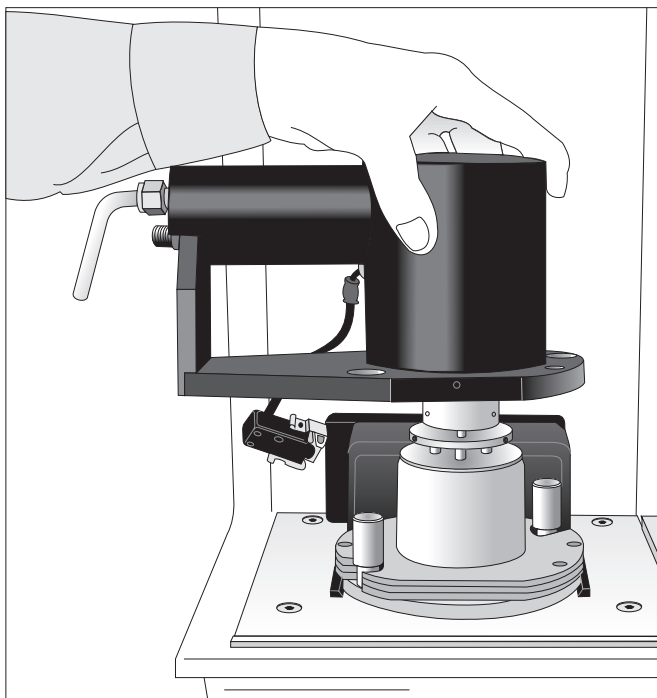

Figure 2.14
5. Align the arm of the heat exchanger to the left and carefully lower it down over the thumbscrews, taking care not to hit the cell. See Figure 2.14.